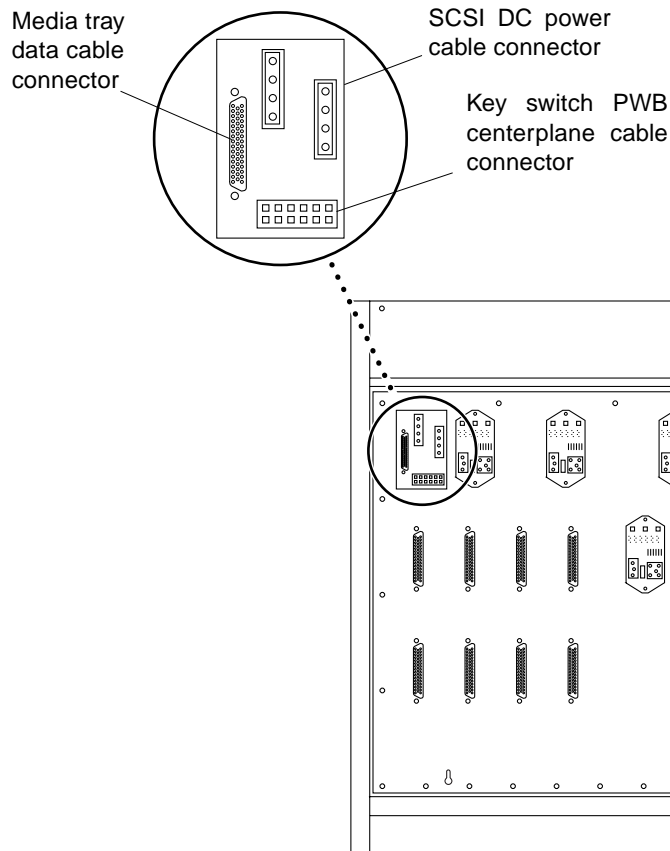

FIGURE E-7 Cable Connectors on the Centerplane
3. Reach through the space normally covered by the front decorative panel and connect the cables to the centerplane (FIGURE E-7).